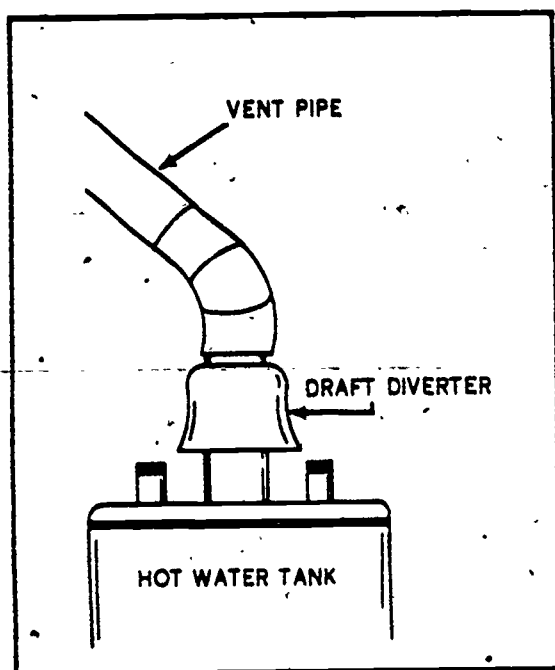

Figure 5-10. Water heater venting arrangement.
**Venting the heaters.** Each flame type water heater should be equipped with a suitable draft diverter or vent hood, as shown in figure 5-10. This prevents a downdraft from affecting combustion or extinguishing the pilot light. It is a good practice to locate a flame type water heater where it can be vented through the roof or into a chimney. If the flue is connected to a chimney, the flue slope should not be less than 1/4 inch per foot. A 3- or 4-inch flue is large enough for the type of water heater used for domestic purposes. You should use a larger flue for water heaters used in commercial establishments. If a coal or oil burner heater is used, the flue should be 4 to 6 inches in diameter.